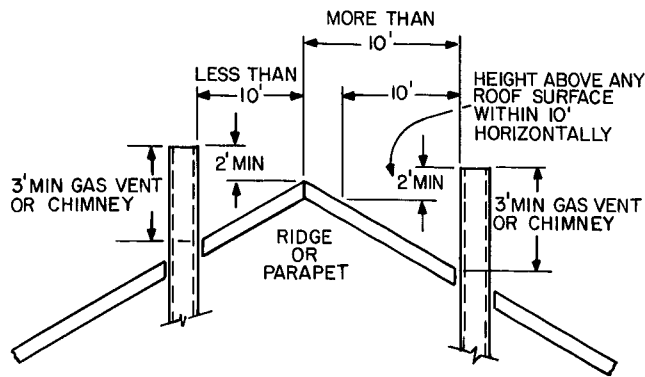

Fig. 5 — Chimney, Gas Vent Height
9. Chimney or gas vent shall extend at least 5 ft above highest connected draft hood and should extend high enough above roof or neighboring obstruction, so that wind from any direction will not create positive pressure in vicinity of chimney or gas vent outlet. Chimney or gas vent should extend 3 ft higher than point of emergence through roof, and at least 2 ft higher than any object within a radius of 10 feet. See Fig. 5.